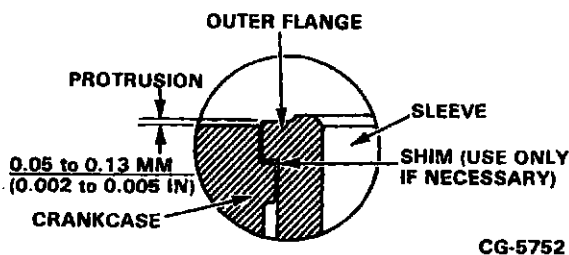

Figure 6.50. Install Shim(s) Reassembly
- c. Install the shim(s), as required to bring the protrusion above the crankcase deck within specifications. Refer to Figure 6.50.
2. If required, assure the proper shim(s) is installed, in the crankcase counterbore, so cylinder sleeve protrusion is within specifications. Refer to "Cylinder Sleeve Fitting Procedure", Figure 6.50.